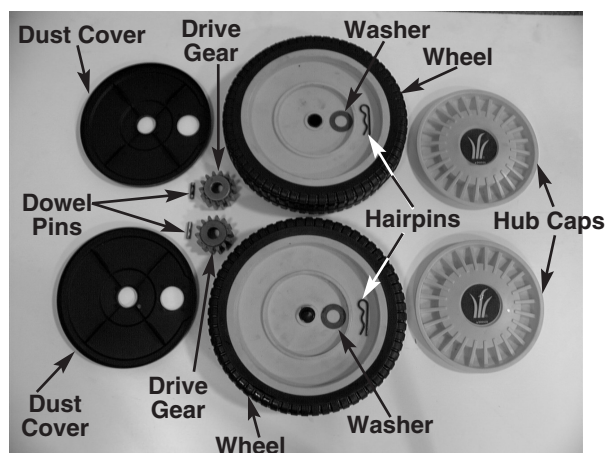

FIGURE 1.
2. Remove the hubcaps, hairpins and washers. See figure 1.
3. Remove the wheels, drive gears marked with "R" or "L" for right and left, the dowel pins and dust covers. See figure 1.